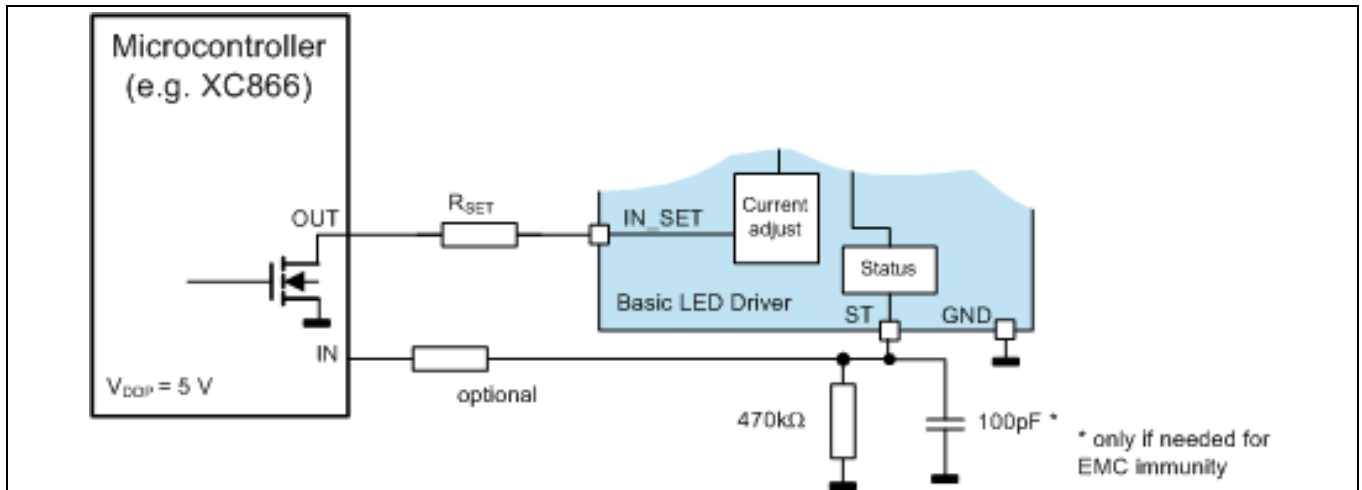

Figure 20 Possible circuit to use ST pin for diagnosis
- An example circuit is given in Figure 20 for the case where the ST pin is used for diagnosis. The IN_SET resistor and IN_SET pin in this case are only used to set the output current and to turn the channel on and off.